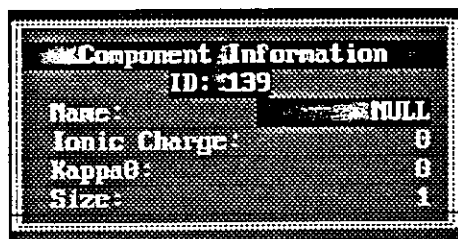

Figure 2.4
To define a NULL component, press the **F5** key. An input form will be displayed on the screen (Figure 2.4). Four pieces of information are needed here, the component's: (1) name, (2) ionic charge, (3) κ^0 , (equivalent ionic conductance at infinite dilution) and (4) ionic radius. With the exception of the component's name, this data is used to calculate solution conductivity. Conductivity is computed as a side calculation when you turn on ionic strength corrections. If you are not planning on running ionic strength corrections, or you don't care about the solution conductivity, you don't have to supply this data. The estimated value for conductivity has no effect on the calculation of ionic strength.